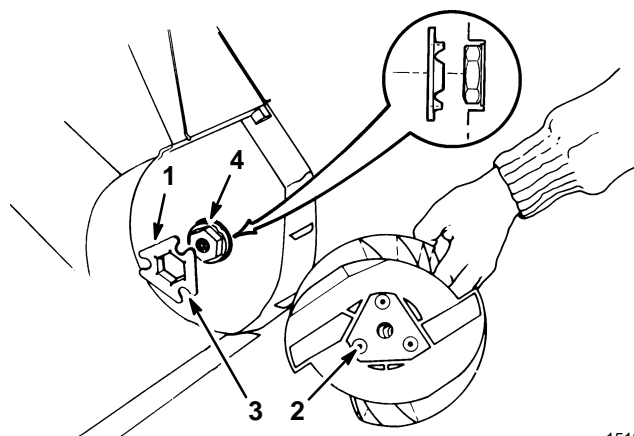

Figure 16
6. Align left side of new rotor with coupler. The (3) bosses on rotor end must align with slots on coupler (Fig. 16). When mounting coupler to drive hex, coupler tabs must be aligned to inside. Slide right side of rotor into mounting position.